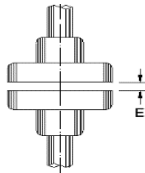

Figure 4.16: Axial clearance of the coupling (E)
Align the shaft ends carefully, and, whenever possible, use flexible coupling, leaving a minimum clearance (E) of 3 mm between the couplings, as shown in Figure 4.16.